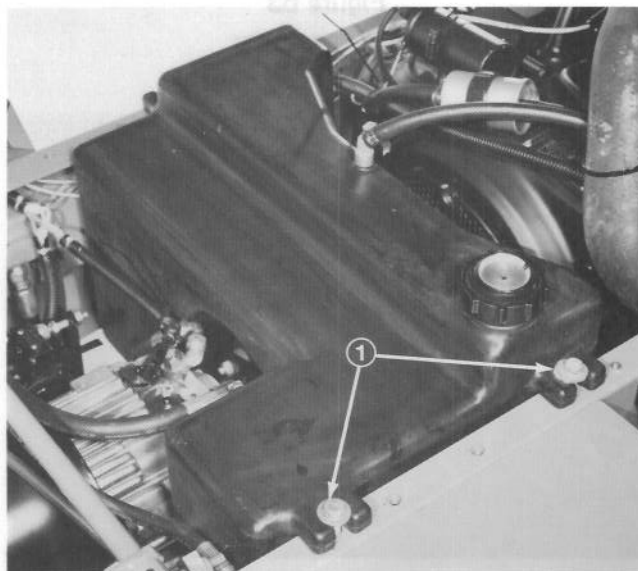

Figure 68
5. Remove capscrews, lockwashers and flatwashers securing fuel tank to top of frame (Fig. 68). However, do not lift fuel tank out of chassis at this time.
1. Set fuel tank into position and secure it in place with capscrews, lockwashers and flatwashers (Fig. 68).